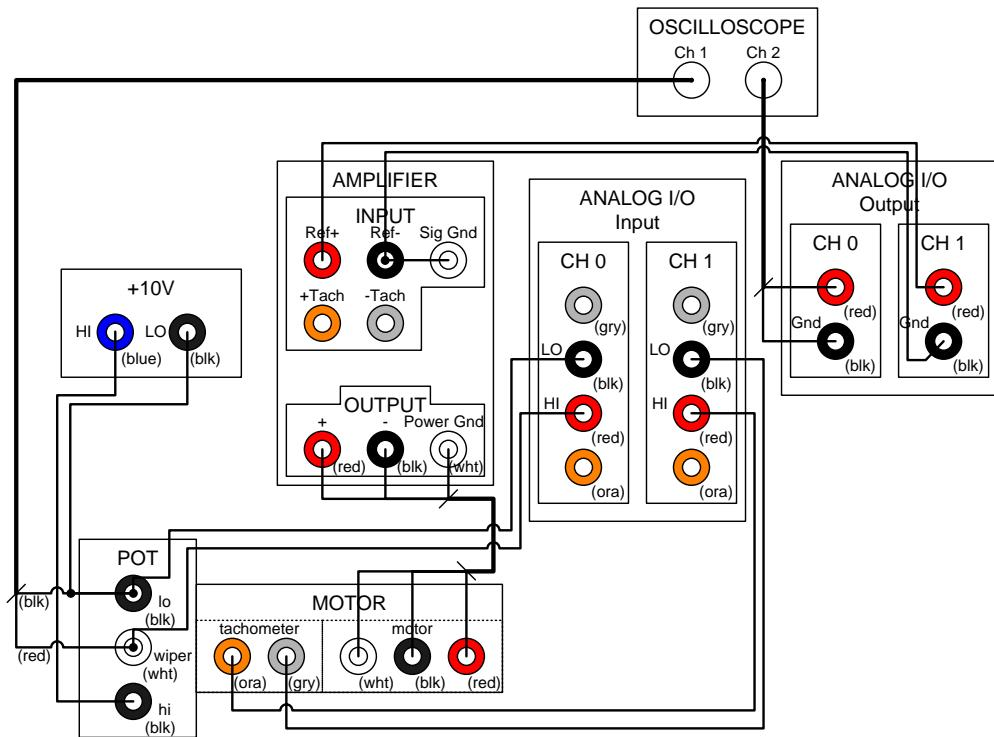

Figure 5.5: Wiring diagram for Part II.
1. Wire the circuit as shown in Figure 5.5.
8. Complete your model, using blocks from the SIMULINK Library Browser. As in Figure 5.5,  $V_{\text{pot}}$  is connected to ADC channel 0,  $V_{\text{tach}}$  is connected to ADC 1,  $v_r$  is connected to DAC 0, and  $e_2$  is connected to DAC 1. Use **Slider gain** blocks instead of a gain blocks for  $K_1$  and  $K_2$ .